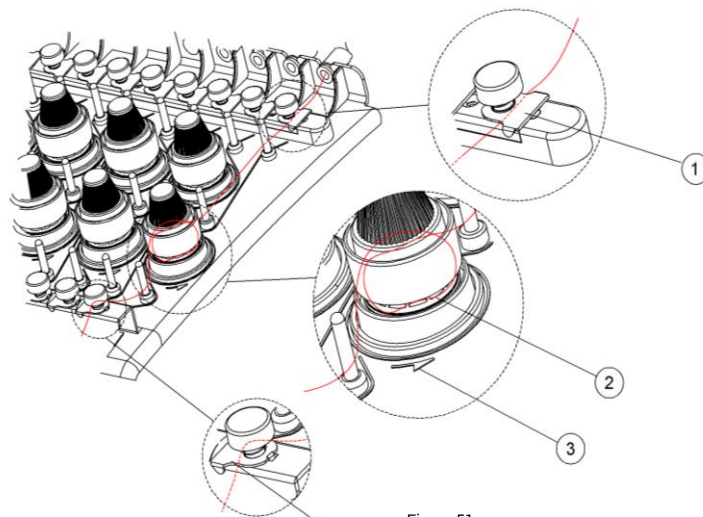

Figure 51
15. Lay it under the metal clip. See No. 1 in Figure 51.
17. Upon reaching the tensioner (see No. 2 and No.3 in Figure 51), insert the thread between the tension plate (see No. 2 in Figure 51), found on the tensioner, pass the thread one and a half (1.5) times around the tensioner (see No. 3 in Figure 51).
18. Continue the thread to the lower pressing clip. Place the thread underneath the clip so the thread stays in place. See No. 4 in Figure 51.